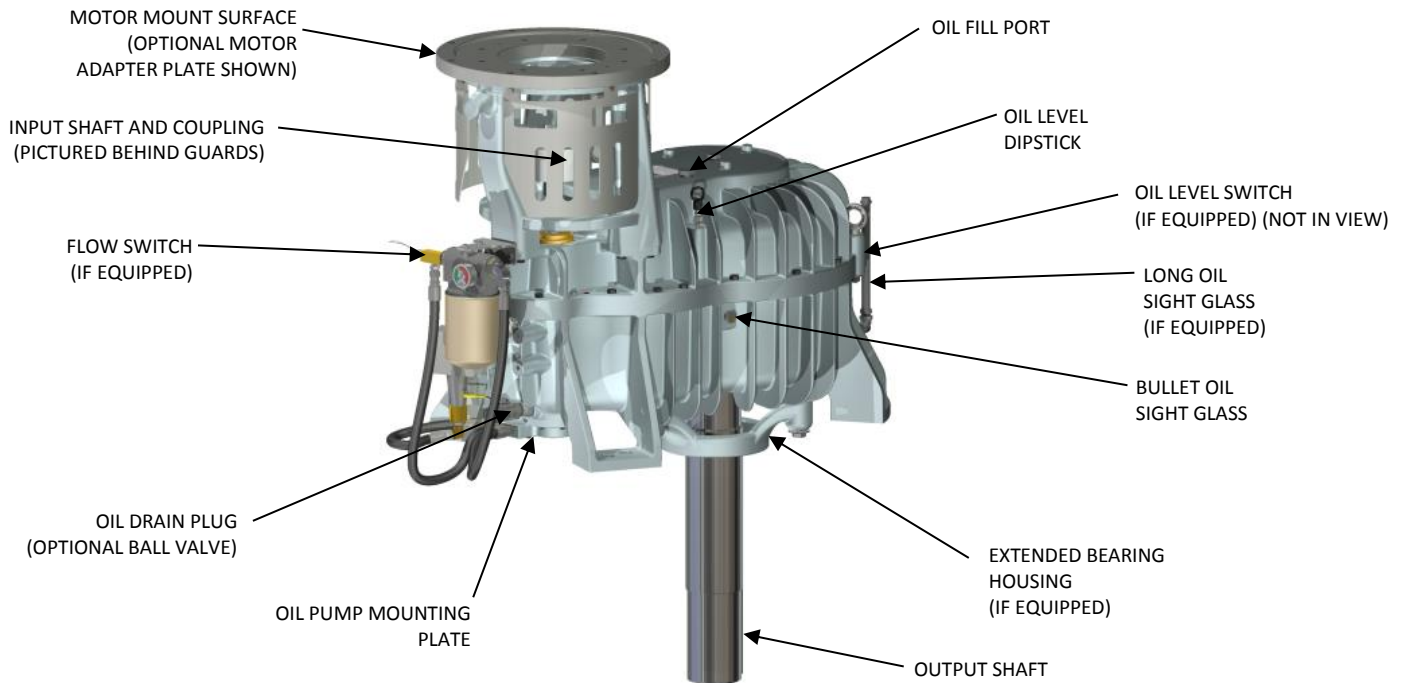

Figure 2: External Locations.
7.4.2 How to take sample from port. Sample ports are optional available upon customer request. See Figure 2, Page 15.